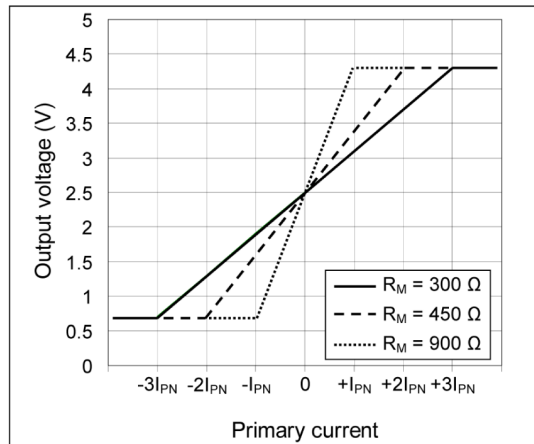

Fig. 1: Characteristic of primary current to output voltage according to different R_M . $V_{refout} = 2.5 \text{ V}$.
4) Output voltage is scaled by changing R_M but not beyond these limits. See Fig. 1.
- 3) $R_M > 300 \Omega$: reduces I_{PR} but increases G_V . See Fig.1.